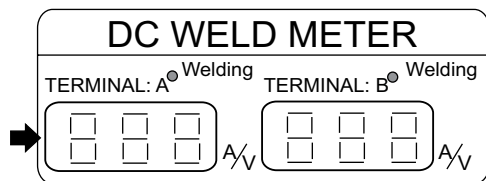

Figure 79. DC Weld Meter Error Codes
1. This unit is equipped with **protection** devices. When any of the **major** protection devices are activated, the engine will **automatically stop** and the error code message will be displayed on the DC welding current meter (Figure 79).